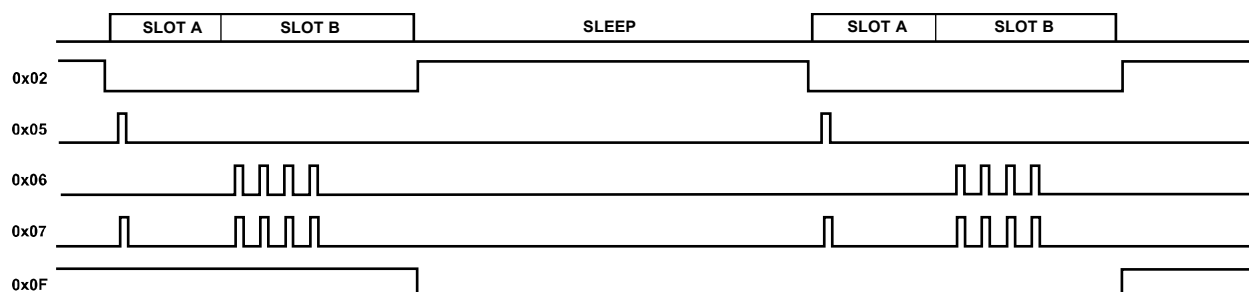
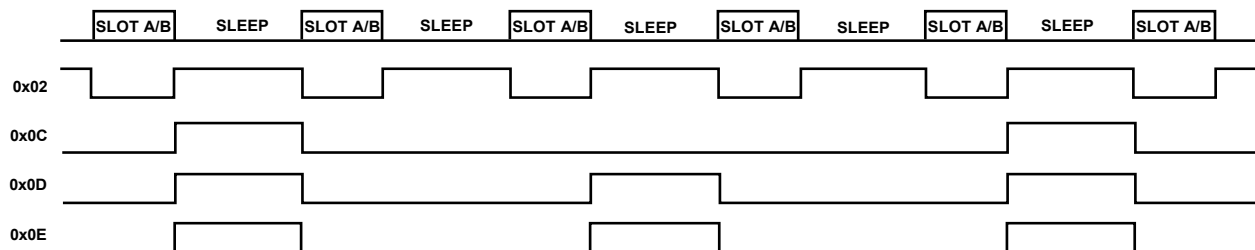

Figure 43. Optional Timing Signals Available on GPIOx—Register 0x0B, Bits[12:8] or Bits[4:0] = 0x02, 0x05, 0x06, 0x07, and 0x0F
Figure 44. Optional Timing Signals Available on GPIOx—Register 0x0B, Bits[12:8] or Bits[4:0] = 0x02, 0x0C, 0x0D, and 0x0E
The various available timing signals are controlled by the settings in Register 0x0B. Bits[12:8] of this register control the timing signals available on GPIO1, and Bits[4:0] control the timing signals available on GPIO0. All of the timing signals described in this data sheet are available on either (or both) of the GPIO0 and GPIO1 pins. Timing diagrams are shown in Figure 43 and Figure 44. The time slot settings used to generate the timing diagrams are described in Table 24.
**Table 24. ADPD1080/ADPD1081 Settings Used for Timing Diagrams Shown in Figure 43 and Figure 44**